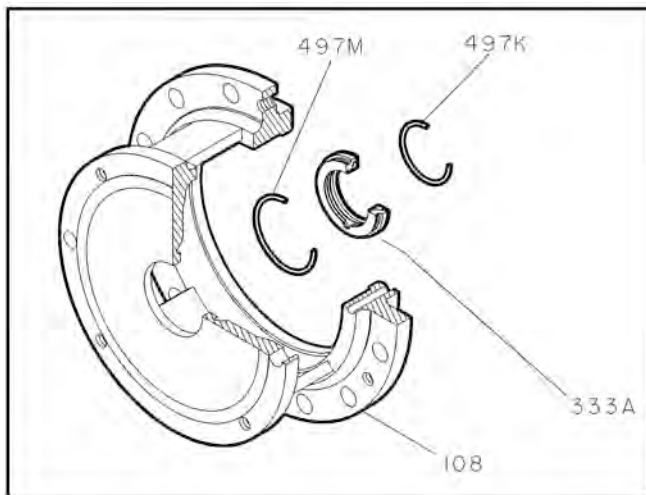

Figure 40:
2. Carefully, remove frame adapter (108) (Fig. 40).